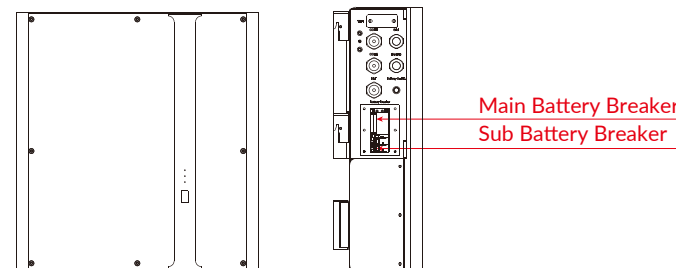

Figure 2.7 Remove SMILE-B3 Upper Cover Plate
Step 2 Use the T20 double offset ring spanner to unscrew the screws, as shown in Figure 2.7